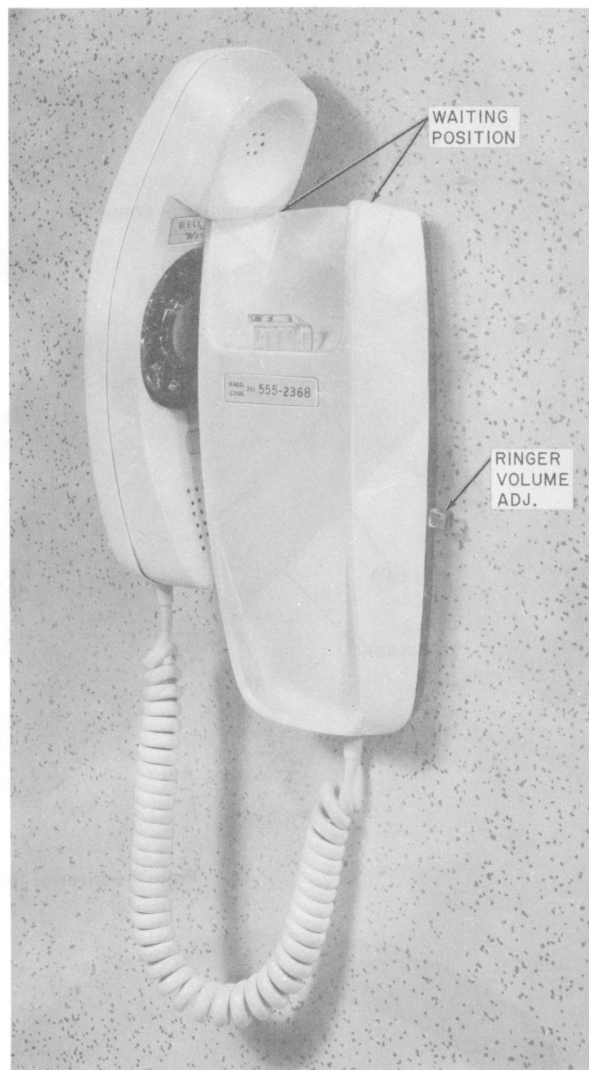

Fig. 6—220A Hand Telephone Set in Waiting Position on AC1 Telephone Base
2.01 The 220A hand telephone set (Fig. 1) is a component of the dial-in-handset TRIMLINE® telephone set. The hand telephone set is a complete telephone set except for the handset cord, ringer, and line switch which are housed in either a AD1 (Fig. 2) or a AC1 telephone base (Fig. 6).
- AC1 telephone base designed to permit hanging up handset without going to on-hook position (Fig. 6)